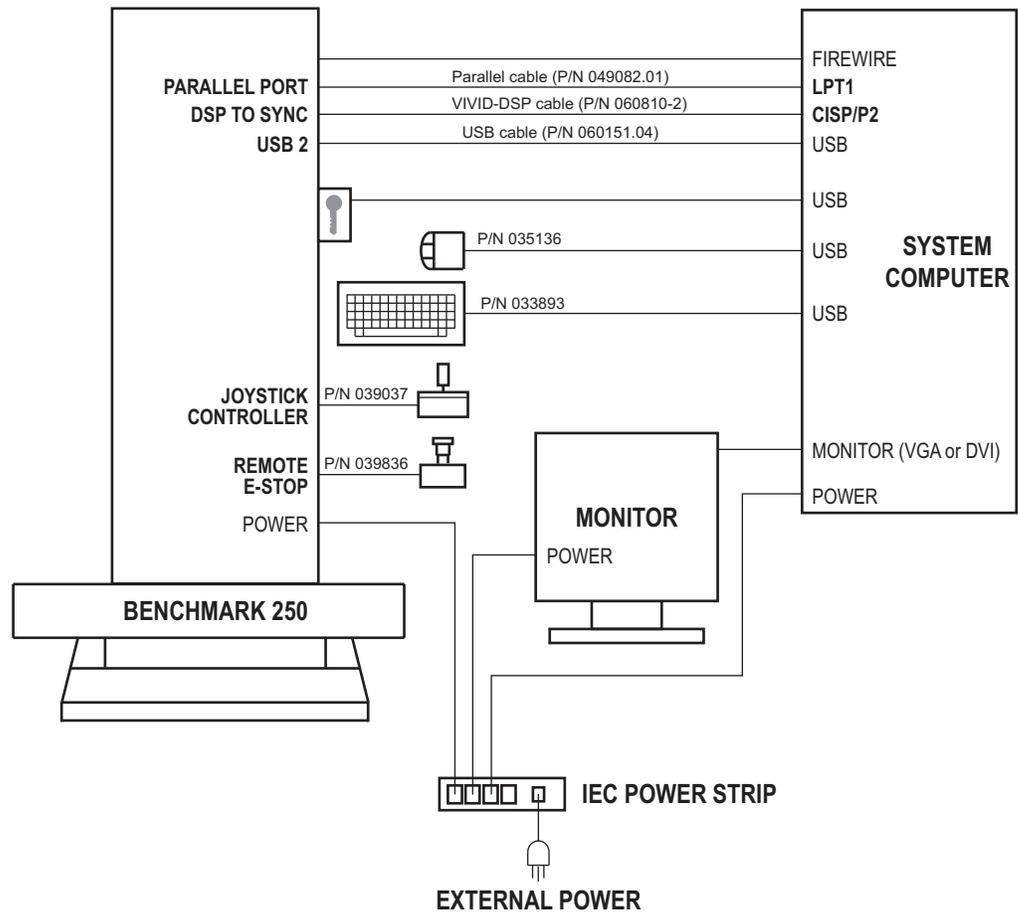

Figure 4-8 System Cabling Diagram (Single Magnification Systems)
- For systems with the single magnification optical system, see Figure 4-8 on page 27 and Table 4-2 on page 28.